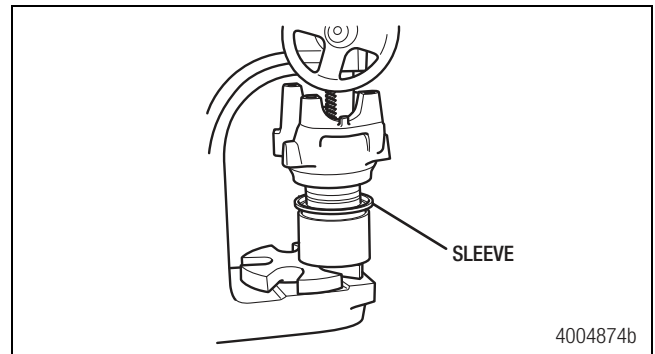

Figure 7.34
5. Apply a light coat of lubricant to the yoke seal journal. Position the sleeve into the yoke sleeve driver. NEVER touch the greased areas of the sleeve. The sleeve must be kept clean prior to assembly into the seal. Use an arbor press and the appropriate driver to install the sleeve into the yoke. Verify the sleeve is fully seated in the yoke to prevent damage to components. Figure 7.34.